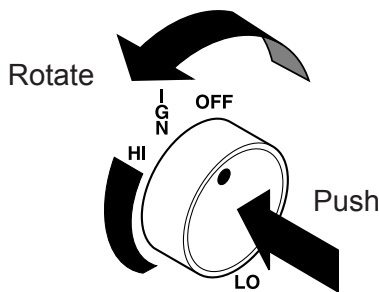

Figure 45 - IGN Position
6. From OFF position, push in gas control knob slightly and turn counterclockwise to the IGN position. See *Figure 45*. Push in and hold control knob for 5 seconds.